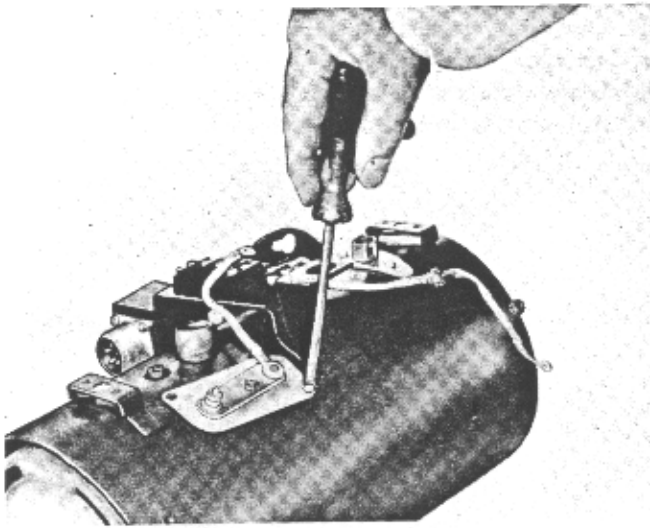

Figure 37
2. Using a screwdriver, remove two screws, holding overheat switch plate to heater case and remove switch (Figure 37).